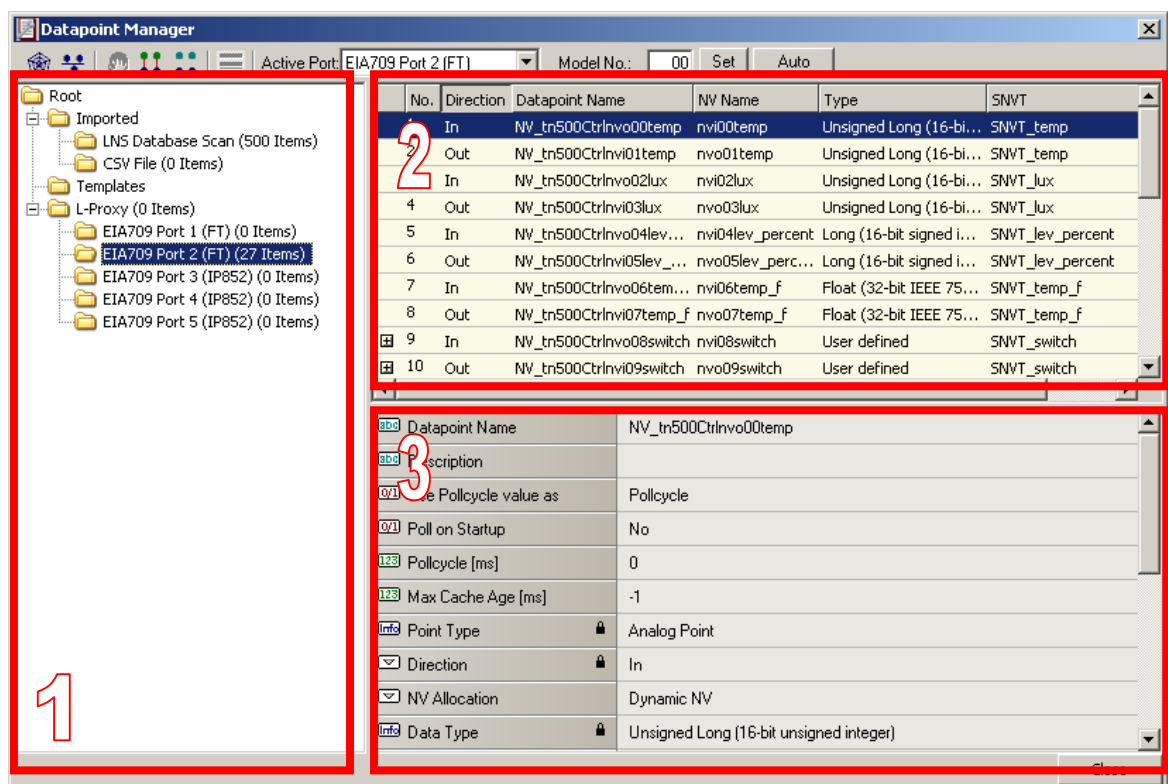

Figure 65: Datapoint Manager Dialog
The configuration software uses a central concept to manage data points. The “Datapoint Manager” dialog as shown in Figure 65 is used to select, create, edit and delete data points. The dialog is divided into three sections:
- ◆ The folder list (number 1 in Figure 65),
- ◆ The data point list (number 2 in Figure 65),
- ◆ And a property view (number 3 in Figure 65).